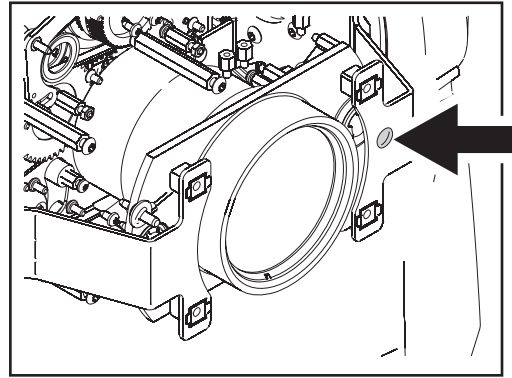

Figure 18: Focus car manual adjustment screw
4. See Figure 18. Insert a screwdriver through the hole (arrowed) in the front cover mounting plate and use the manual adjustment screw to run the focus car back into the module.